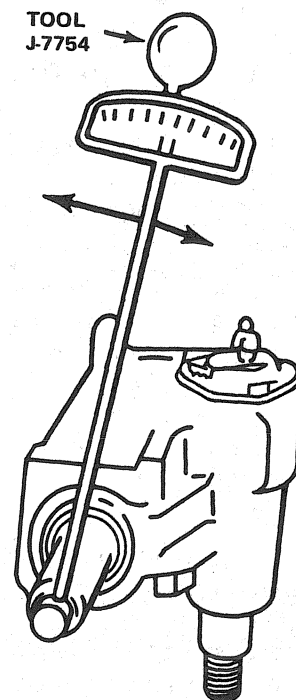

Fig. 2K-17 Adjusting Pitman Shaft Overcenter Drag Torque
- (1) Rotate wormshaft from stop-to-stop and count total number of turns.
- (2) Turn wormshaft back 1/2 total number of turns to place ball nut and pitman shaft in centered position.
- (3) Install socket and Torque Wrench J-7754 on pitman shaft splines (fig. 2K-17).